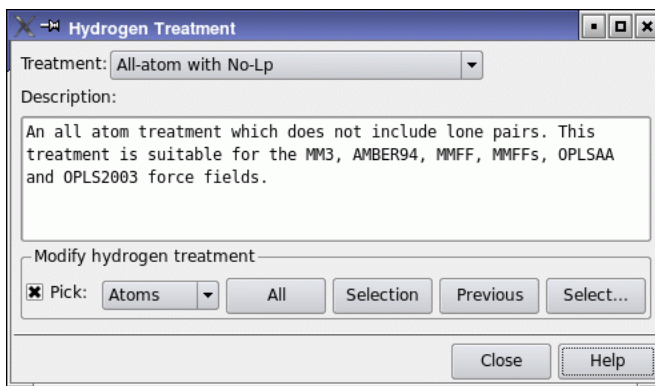

Figure 2.5. The Hydrogen Treatment panel.
2. Choose All-atom with No-Lp from the Treatments option menu (see Figure 2.5).